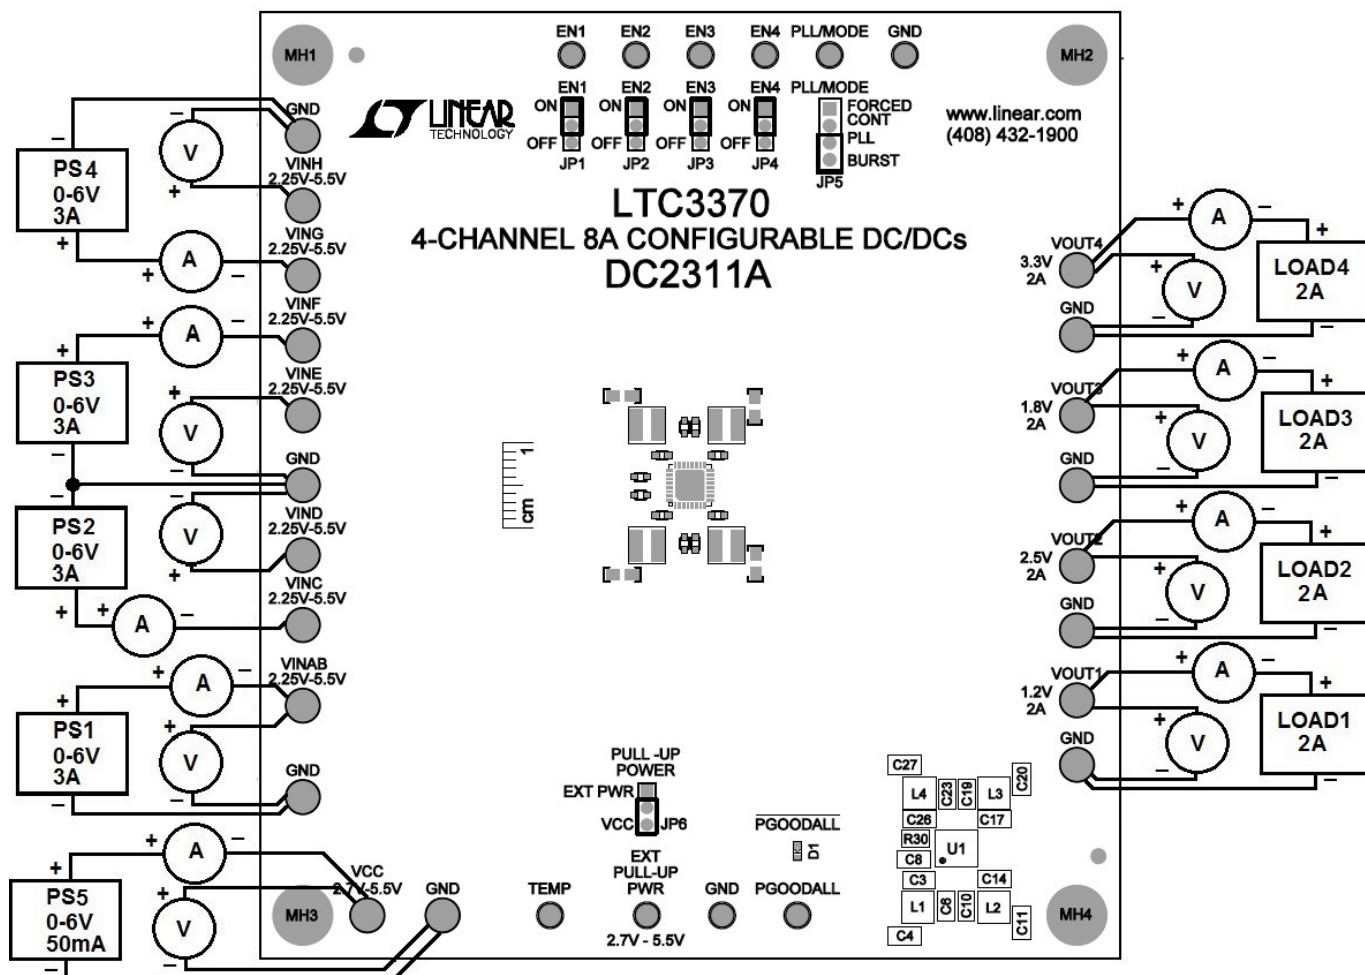
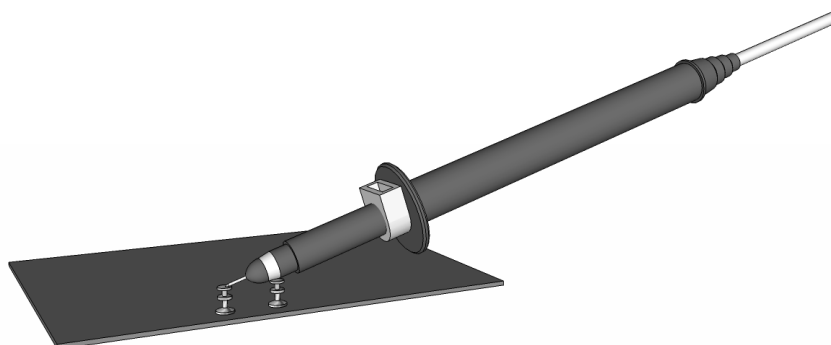

Figure 1. Proper Measurement Equipment Setup
Figure 2. Measuring Input or Output Ripple
The DC2311A is easy to set up to evaluate the performance of the LTC3370. Refer to Figure 1 and Figure 2 for proper measurement equipment setup and follow the evaluation procedure below.
NOTE. When measuring the input or output voltage ripple, care must be taken to avoid a long ground lead on the oscilloscope probe. Measure the input or output voltage ripple by touching the probe tip directly across the V_{IN} or V_{OUT} and GND terminals. See Figure 2 for proper scope probe technique.
4. With power off, connect a 0V to 6V, 50mA power supply (PS5) to V_{CC} input terminal and GND with a series ammeter and a voltmeter as shown in Figure 1.
7. With power off, connect 0V to 6V, 2A power supplies to each input pair (PS1-PS4), V_{INAB} , V_{INC}/V_{IND} , V_{INE}/V_{INF} , V_{ING}/V_{INH} and GND with a series ammeter and a voltmeter as shown in Figure 1. A single 0V to 6V, 10A supply can be used instead to supply all V_{IN} inputs and the V_{CC} input simultaneously.
9. With power off, connect a 0A to 2A load to V_{OUT1} and GND with a series ammeter and a voltmeter as shown in Figure 1.
using an oscilloscope with the probe connected as shown in Figure 2.